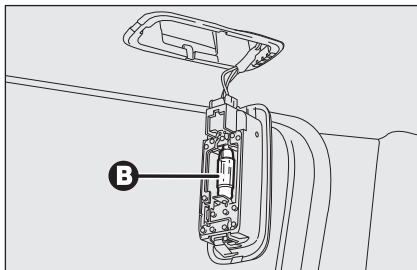

fig. 45
- replace the bulb **B-fig. 45** releasing it from the side contacts making sure that the new bulb is correctly clamped between the contacts.